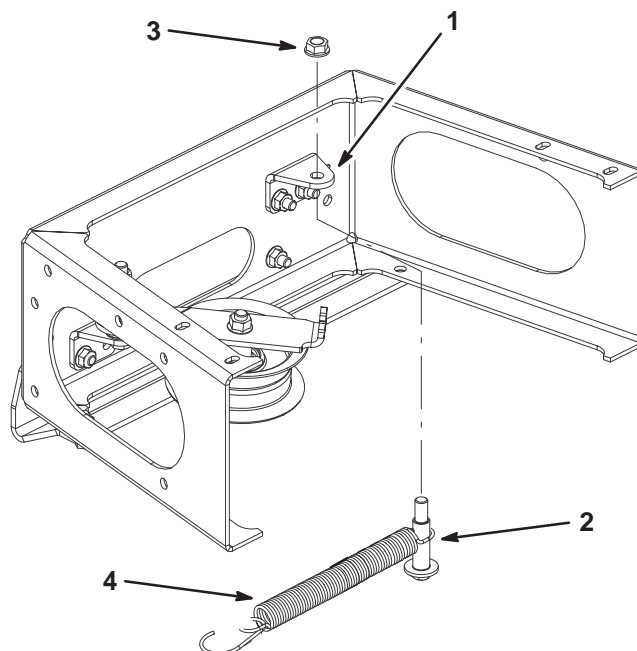

Figure 13
4. Install the shoulder bolt (3/8 x 2-1/2 inch), spring and flange nut (3/8 inch) to the spring bracket (Fig. 13).